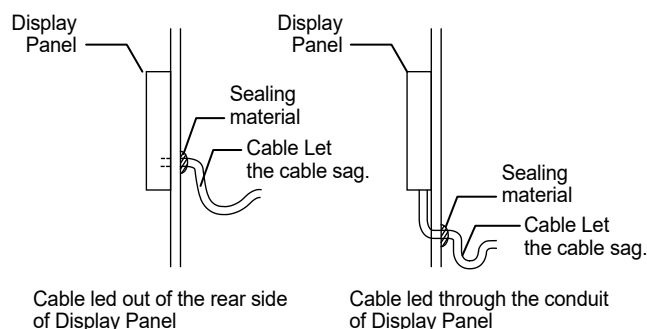

Figure 10. Cable arrangement
- To prevent water from flowing down to Display Panel through the cable, let the cable sag, as Figure 10 shows.
- When installing Display Panel on an AHU side plate, seal the wiring hole on the AHU side plate, as Figure 10 shows. Damp or dew condensation may damage the Display Panel, otherwise.